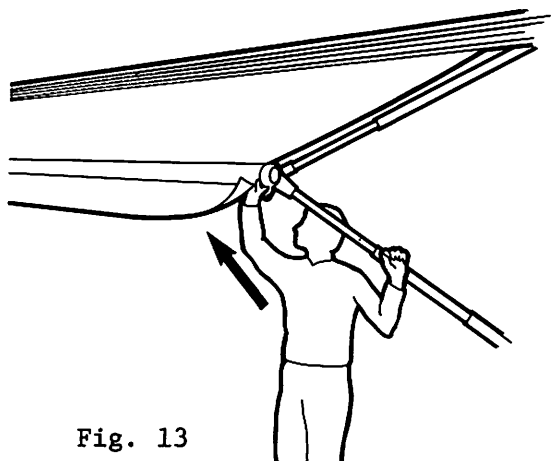

Fig. 13
- Step 5. Raise the awning to the desired height by releasing the snap stud on the main arm and pushing up and out on the roller assembly (Figure 13).